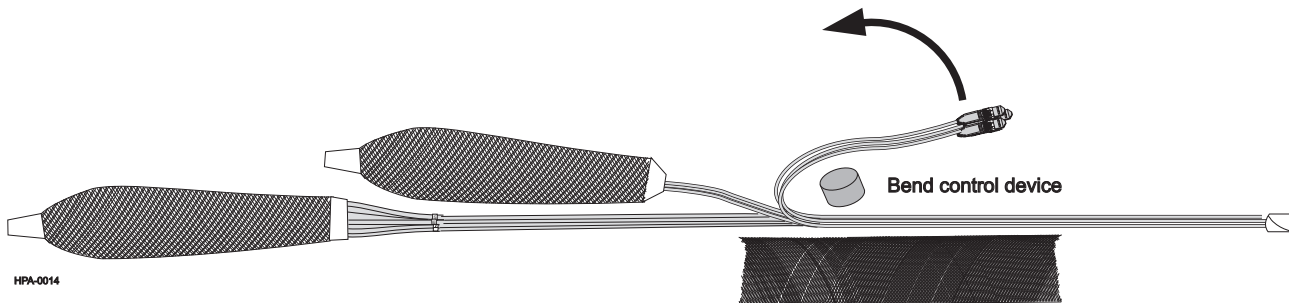

Figure 10 — Mesh Bag Removal
Step 8: Starting with the mesh bag closest to the furcation body, remove the tape and mesh to expose the first set of three folded legs (Figure 10). Unfold the legs from around the bend control device.